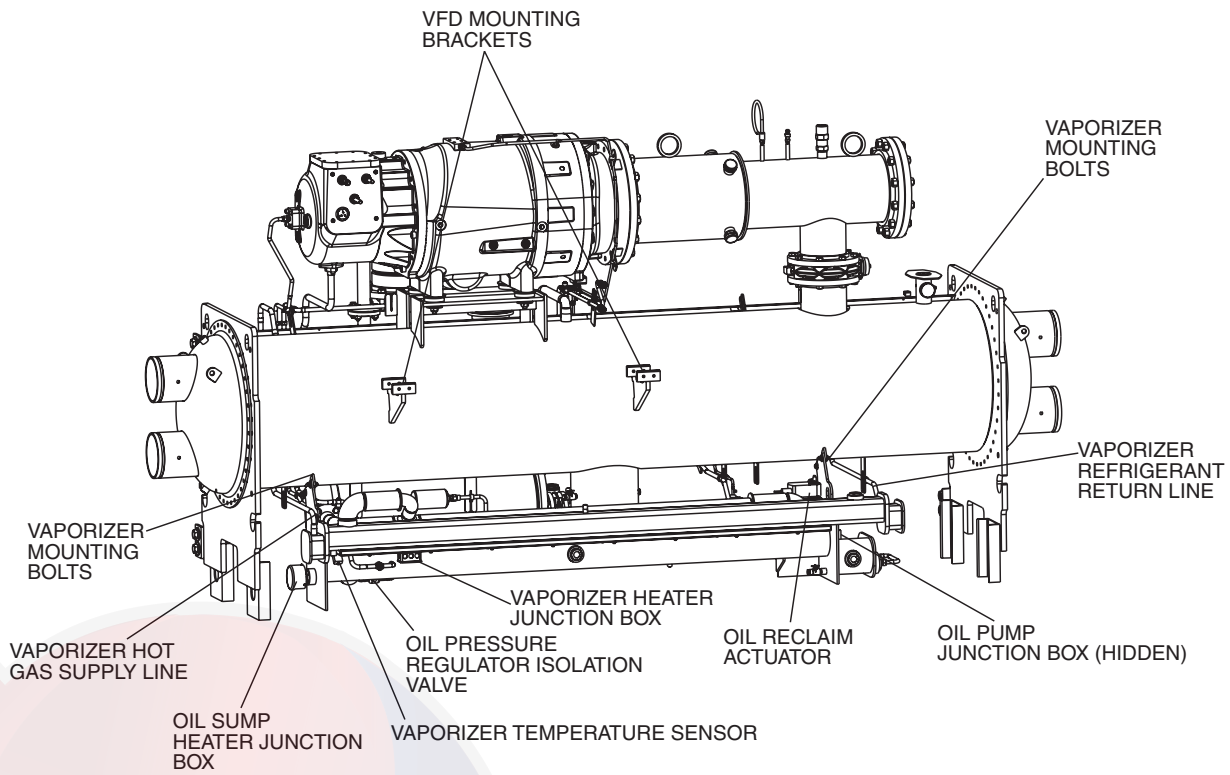

Fig. 34 — Oil Concentrator Removal, Q and R Compressors (Unit with R Compressor Shown)
SEPARATE THE VAPORIZER FROM THE CONDENSER — The VFD mounting brackets (Fig. 34 and 35) extend beyond the outboard edge of the tubesheet. The vaporizer extends beyond the perimeter of the condenser tubesheet.
1. Cut the vaporizer hot gas supply line near the oil concentrator (Fig. 34 and 35).
- d. vaporizer heater cable in the vaporizer heater junction box (Fig. 34 and 35)
- f. oil sump heater conduit from its junction box (Fig. 34 and 35)
g. vaporizer temperature sensor (Fig. 34 and 35)
8. Rig the vaporizer with the lifting points on the vaporizer mounting bracket and remove the 4 bolts that secure it to the condenser (Fig. 34 and 35).